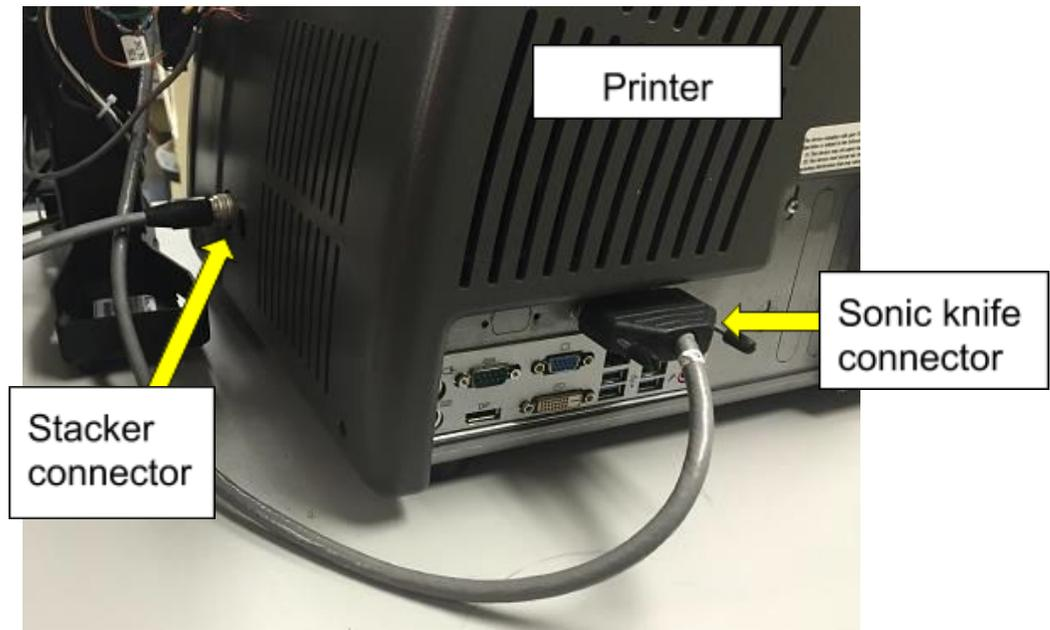

Figure 3
2. Connect the sonic knife cable to the receptacle on the printer as shown in Figure 3.